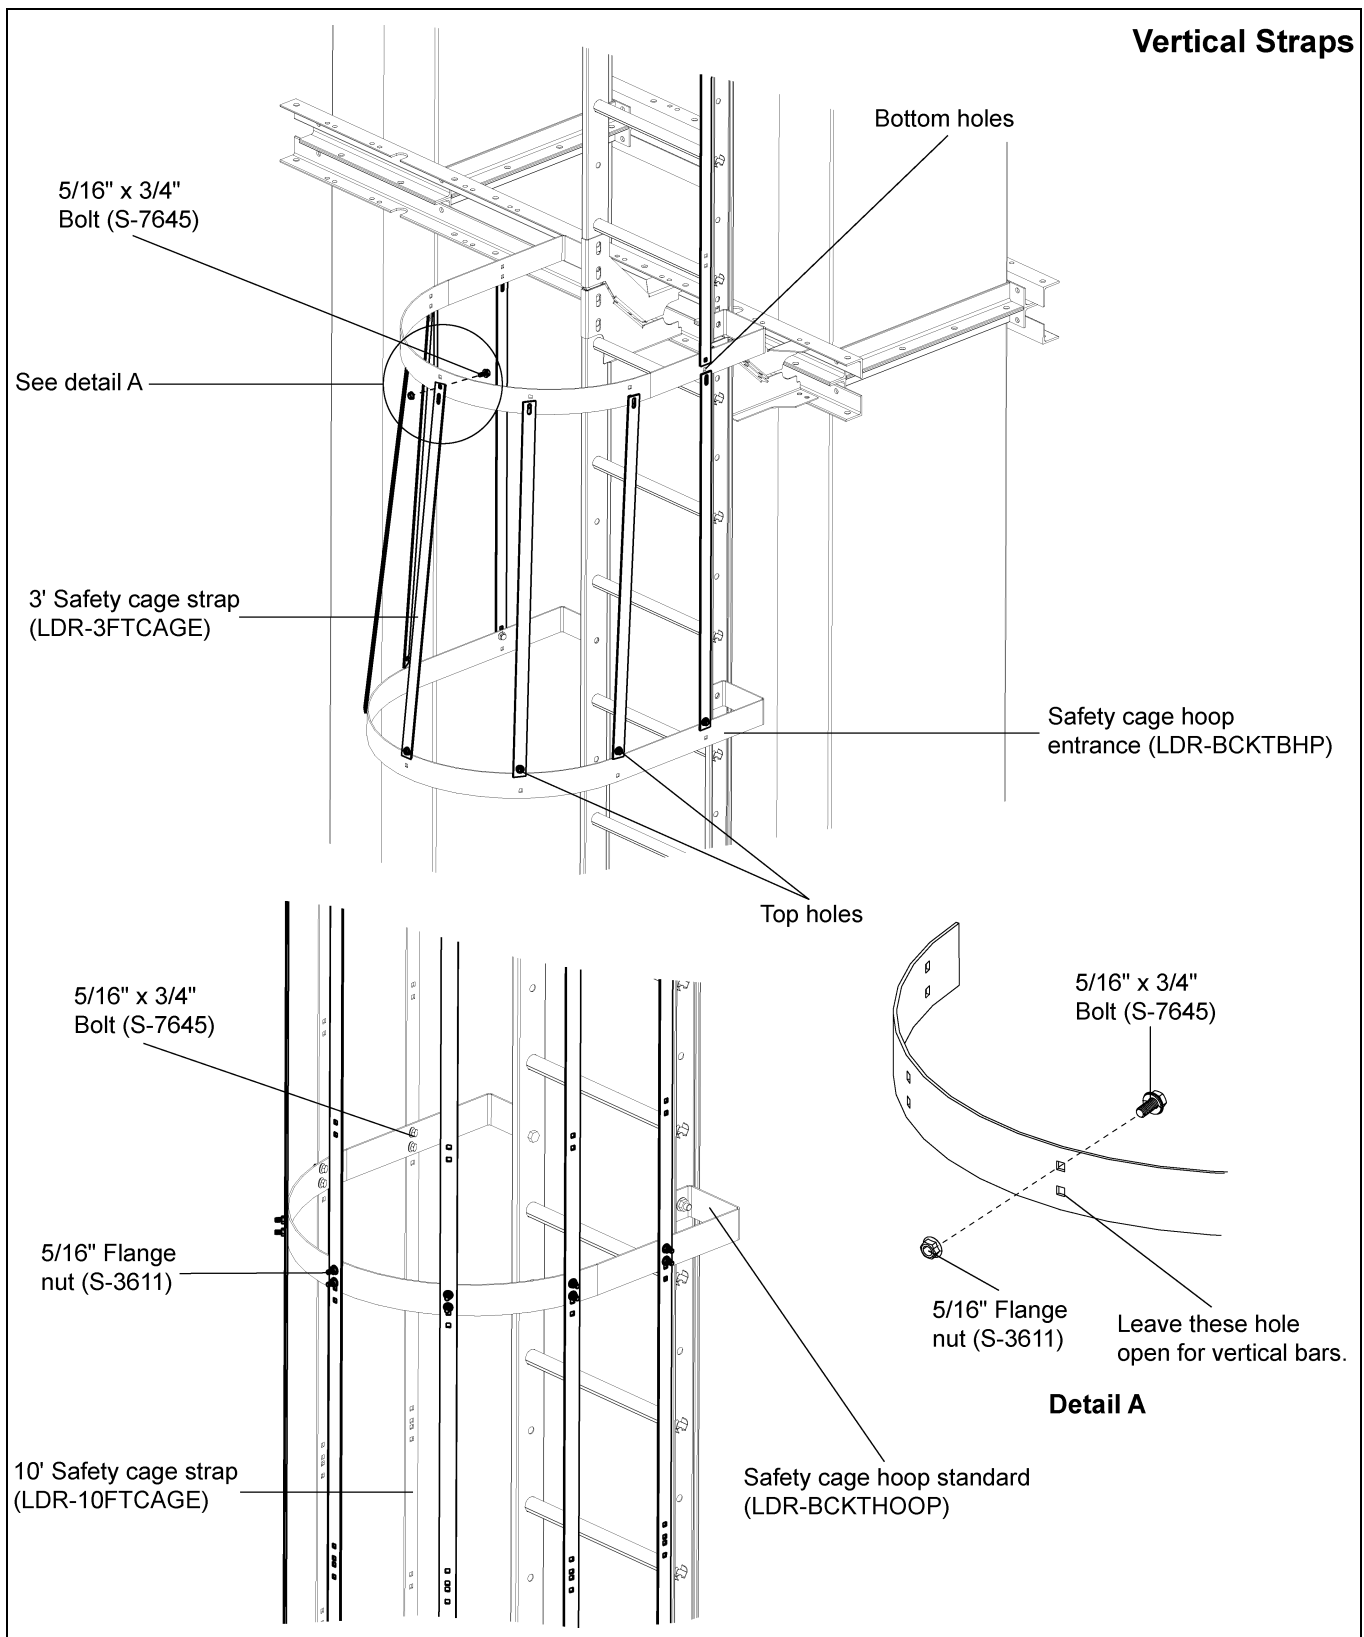

Figure 6Y
3. Install the seven (7) 10' safety cage straps along the safety cage hoops using 5/16" x 3/4" bolts and nuts. **NOTE:** Bolt heads should be to the inside of the hoop. (See Figure 6Y.)